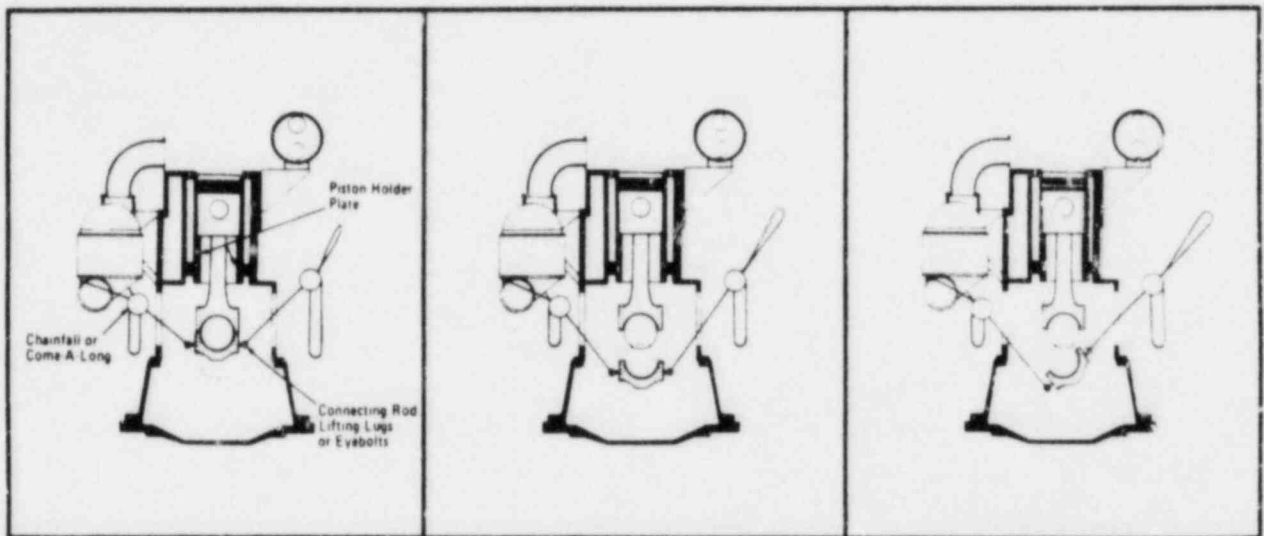

Figure 6-C-3. Removing Connecting Rod Bearing Cap
e. Maneuver bearing cap outside door as shown in figure 6-C-3.